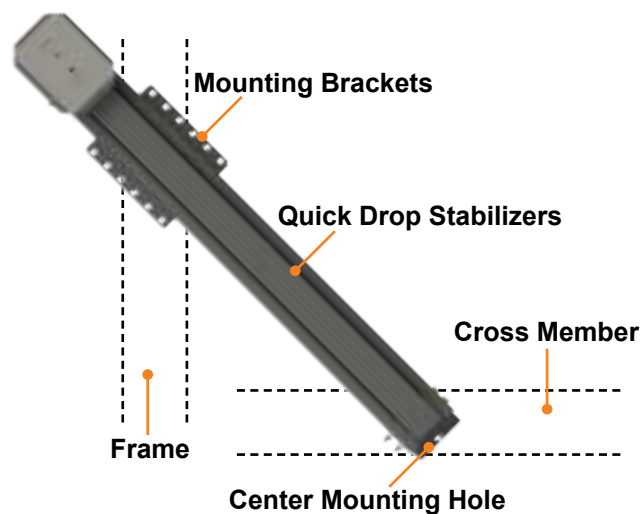

Fig.21
**NOTE:** Figure 21 shows mounting location with more clarity.